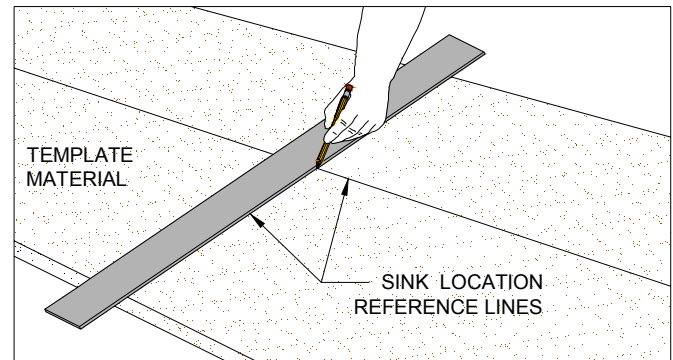

Figure 4A
- Include both vertical & horizontal alignment marks. (FIG. 4A)